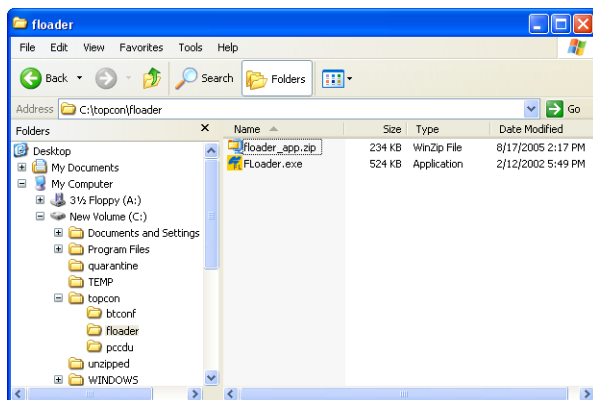

Figure 2-5. Extract Program and Create Shortcut
3. Extract the FLoader.exe to the FLoader folder (Figure 2-5).
4. Create a shortcut on the computer's desktop for quick access to FLoader (Figure 2-5).